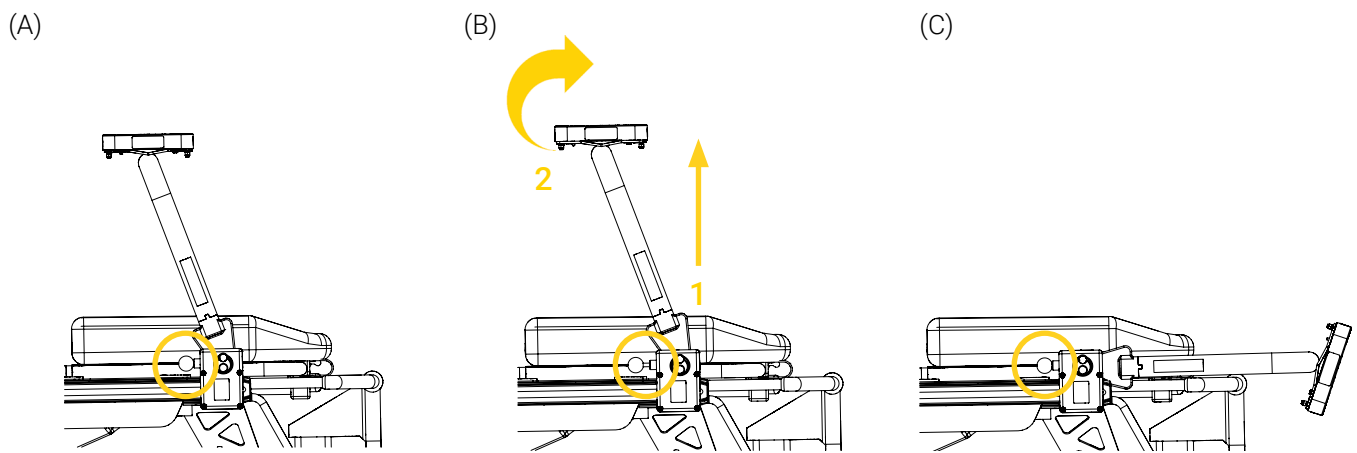

Figure 15: Lowering the SAS 500
2. Pull and hold the quick release knob of the clamp block (Figure 15 A) to disengage the safety mechanism.
3. Lift the tubular arm upwards, rotate the SAS 500 downwards to the horizontal position (Figure 15 B), then release the quick release knob of the clamp block (Figure 15 C).